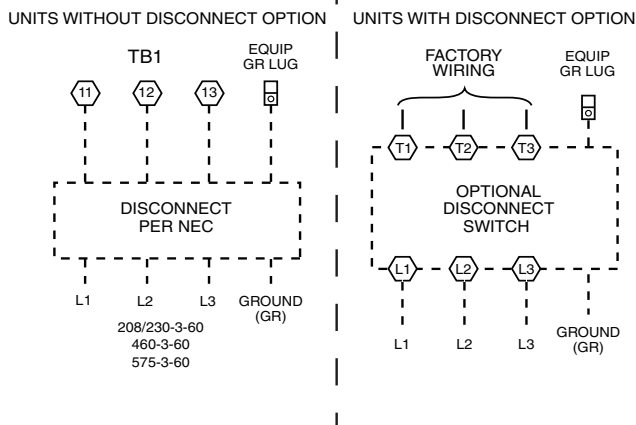

Fig. 43 — Power Wiring Connections
Size wire based on MCA (Minimum Circuit Amps) on the unit informative plate. See Fig. 43 for power wiring connections to the unit power terminal block and equipment ground. Maximum wire size is 2/0 AWG per pole.
3. Install power lines to terminal connections as shown in Fig. 43.